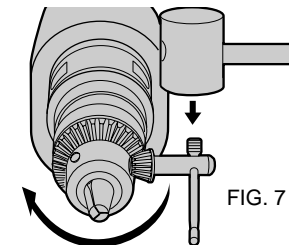

FIG. 7
6. Place key in chuck as shown in Figure 7.
7. Using a wooden mallet or similar object, strike key sharply in a counterclockwise direction. This will loosen chuck so that it can be unscrewed by hand (Figure 7).